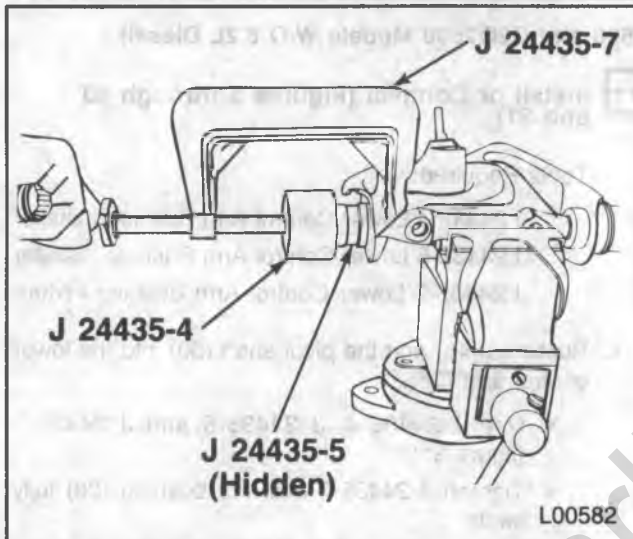

Figure 31 — Installing the Lower Control Arm Bushing (G20/2500 W/6.2L Diesel)
1. Bushings (46) and the pivot shaft (50) into the lower control arm (36).
- Use J 24435-4, J 24435-5 and J 24435-7 (figure 31).
- Tighten J 24435-7 until the bushing (26) fully seats.
- Slide the pivot shaft (50) into the lower control arm (36), then install the other bushing (46).
2. Lower control arm (36).
- Bushings (26) and the pivot shaft (29) into the upper control arm (28).
- Slide the pivot shaft (29) into the upper control arm (28), then install the other bushing (26).